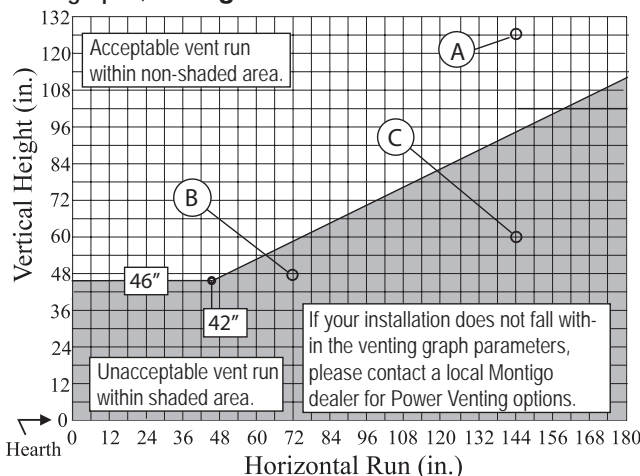

Figure 12. H38PR* or HL38PR* Top Vent Venting Graph for wall mounted terminations.
- Once the proposed venting layout has been determined refer to either **Figure 12, 12a, 14, or 14a** to ensure the layout is acceptable.
- Venting runs *must* fall within the limits set by the venting graphs, see **Figure 12 or 12a**.
Measure the vertical height from the fireplace hearth to the centre of the termination and the horizontal run from the fireplace flue collar to the wall flange of the termination. Plot on the Venting Graph **Figure 12 or 12a** with an 'X'.
Figure 12a. H38PR* or HL38PR* Top Vented, wall mounted installation with one 90° bend. The vent run must comply with Venting Graph for Top vent, wall mounted terminations, Figure 12.
Figure 13b. H38PR*, HL38PR*, or HP3PR* Top Vented, wall mounted Multi-elbow installation. See Venting Graph for Top vent, wall mounted terminations, Figure 12 or 12a.
Figure 13c. H38PR*, HL38PR* or HP38PR* Top Vented, wall mounted Retracted Multi-elbow installation. See Venting Graph for Top vent, wall mounted terminations, Figure 12 or 12a.